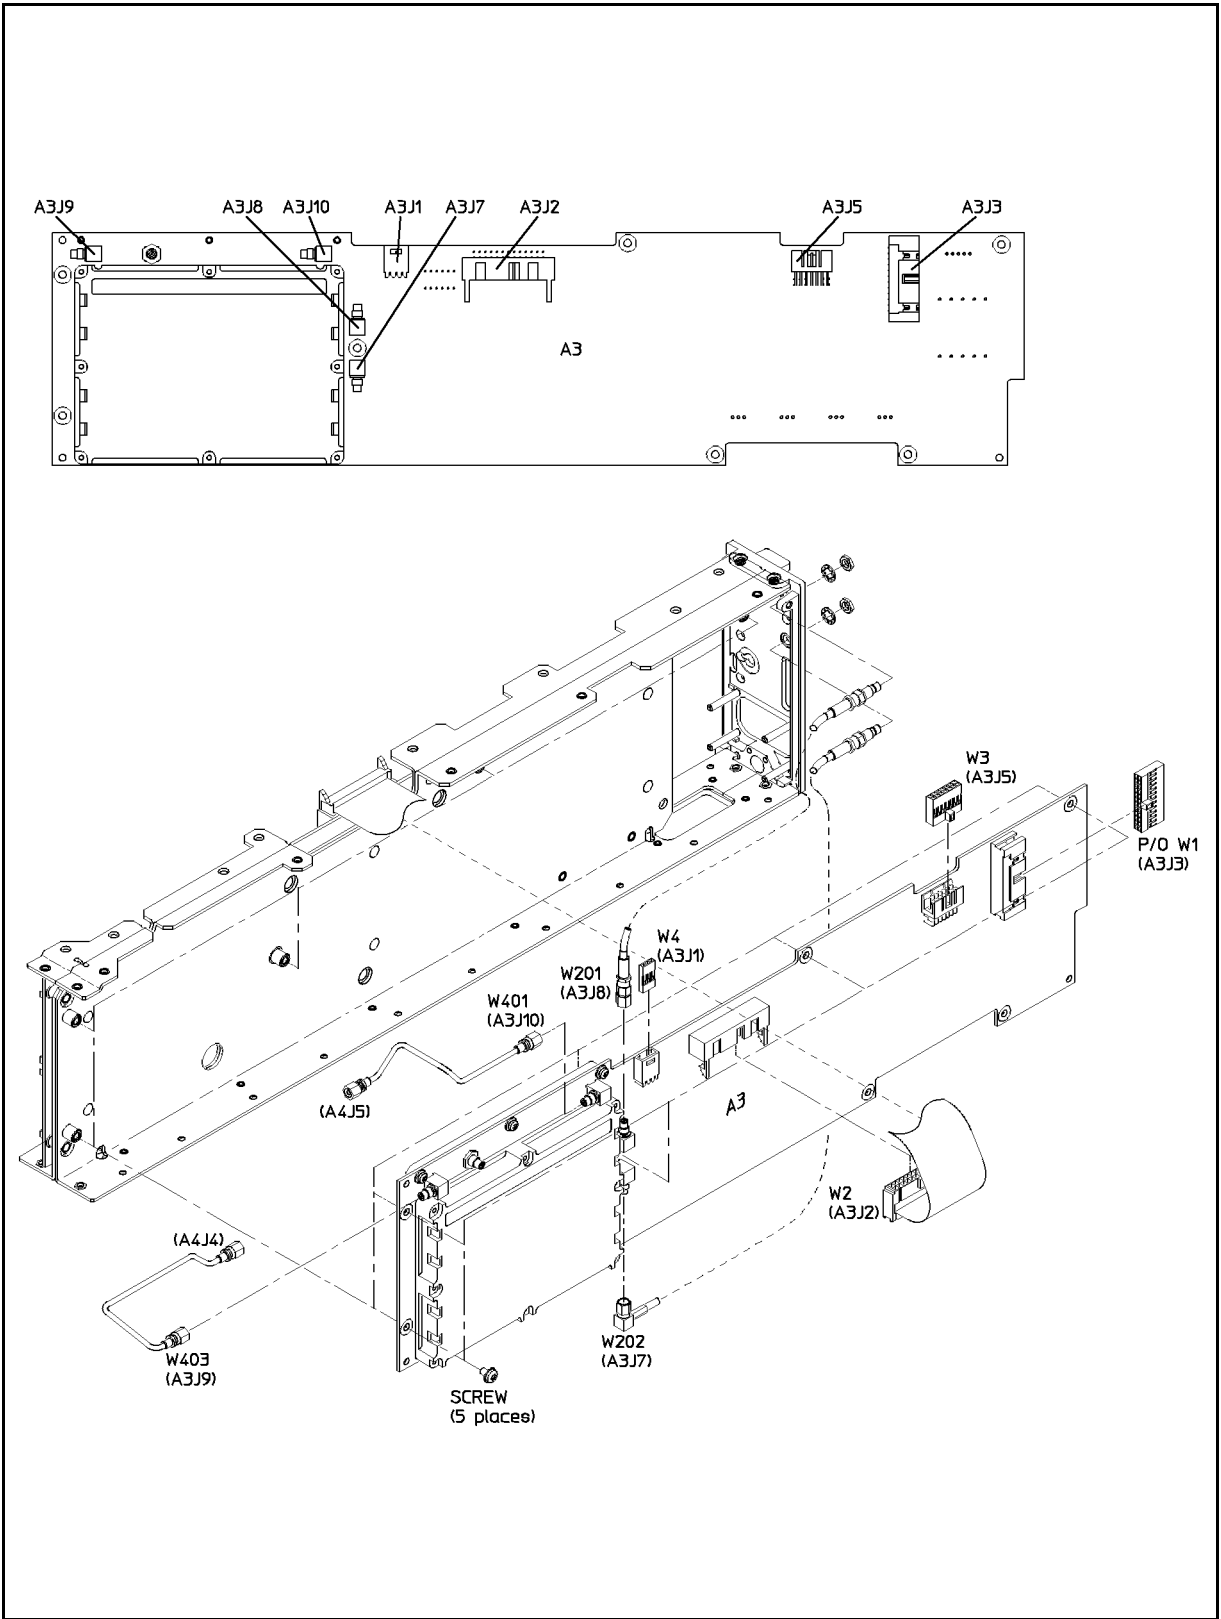

Figure 2-6. Power Mod Board Assembly A3
2. See Figure 2-6. Disconnect the following cables *completely* from A3 Power Mod Board Assembly and the rear panel, using 5/16 and 15/64 inch wrenches.
Reassembly is generally a simple reversal of the removal procedures. Refer to Figure 2-6 when connecting the cables to the replacement assembly. Refer to “Semi-Rigid Cables” and “Flexible Cables” earlier in this chapter for proper care and installation of the cables.